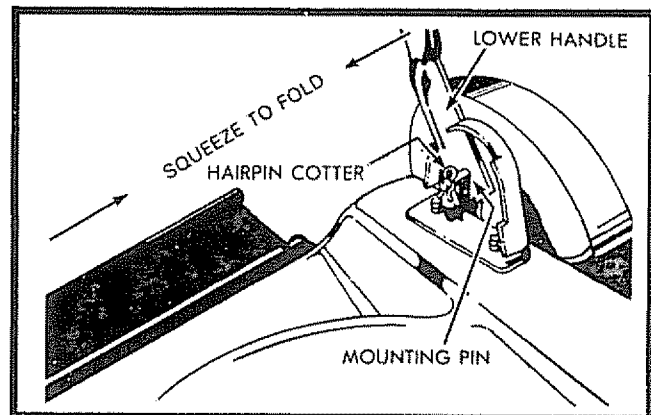

FIG. 13
- To fold, squeeze the bottom ends of the Lower Handle toward each other until the Lower Handle clears the Handle Bracket, then move Handle forward (See Fig. 13).